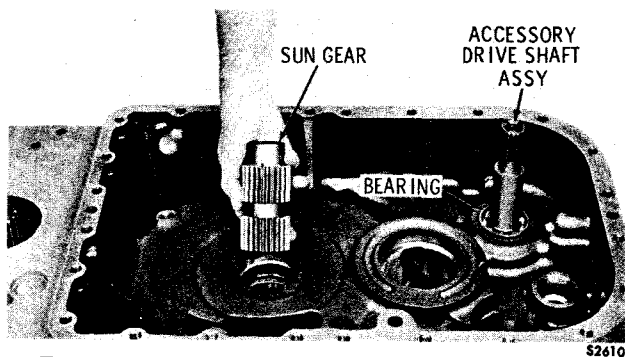

Fig. 7-30. Installing reverse-and-low-range sun gear
(1) If bearing 9 (B, foldout 3) was removed from accessory drive shaft 8, replace it.
(2) Install bearing 9 onto drive shaft 8 and seat the bearing firmly against the shaft shoulder. Apply Molykote Type G, or equivalent into the drive splines of the shaft.
(3) Install the accessory drive shaft and bearing into the transmission housing (fig. 7-30).
(1) If the transmission is equipped with a standard-speed, low-gear ratio, install the reverse-and-low-range sun gear, as shown in figure 7-30. If the transmission is equipped with a high-speed, low-gear ratio, install spacer 8 (A, foldout 5) into the sun gear cavity in the housing wall.